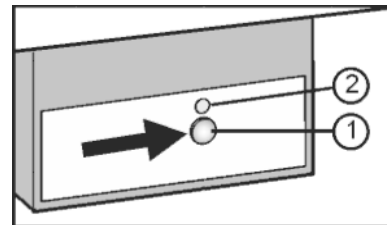

Fig. 16
- Press the On/Off button Fig. 16 (1) so that the LED Fig. 16 (2) shines.